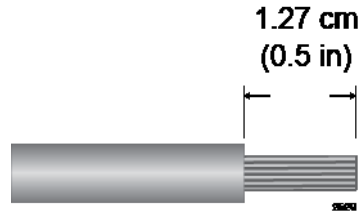

Figure 68. Stripping the Power Wires
1. Prepare adequate lengths of two stranded 8 AWG power wires by stripping them as shown in Figure 68 on page 104.